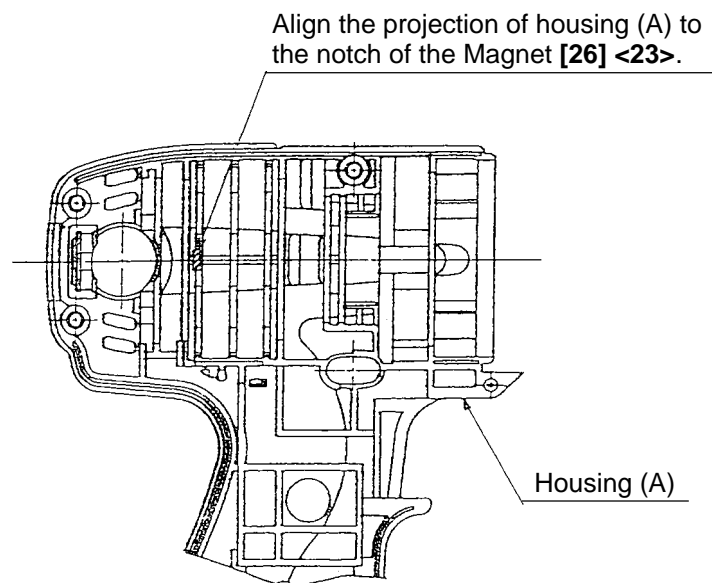

Fig. 15
- (c) Mount a unit of the Inner Cover [24] <21> (including the Armature Ass'y [25] <22>), Magnet [26] <23> (including the Dust Guard Fin [27] <24>) and Brush Block [28] <25> into housing (A) (See Fig. 15). Pay attention to the following items.